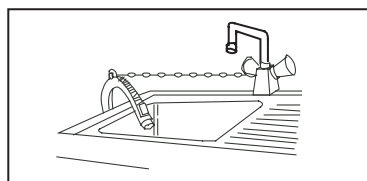

Fig. 8
1. When installing outlet hose, fasten it tightly. (Fig. 8 + 9)